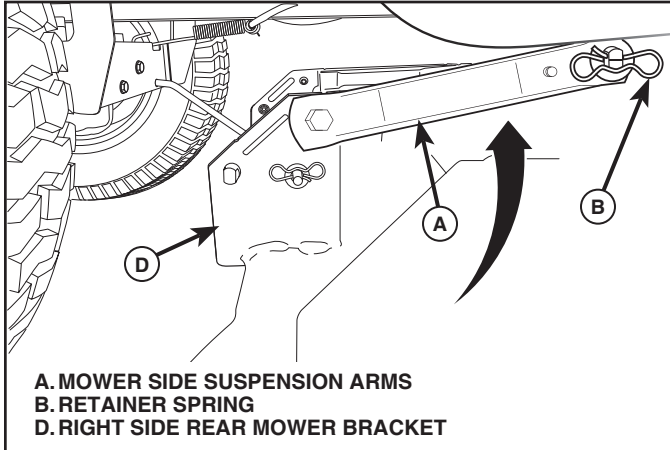

Fig. 10
6. ATTACH MOWER SIDE SUSPENSION ARMS (A) TO CHASSIS (See Fig. 10)
- Position front hole in side suspension arm (A) over pin on outside of tractor chassis and secure with large washer and large retainer spring (B).